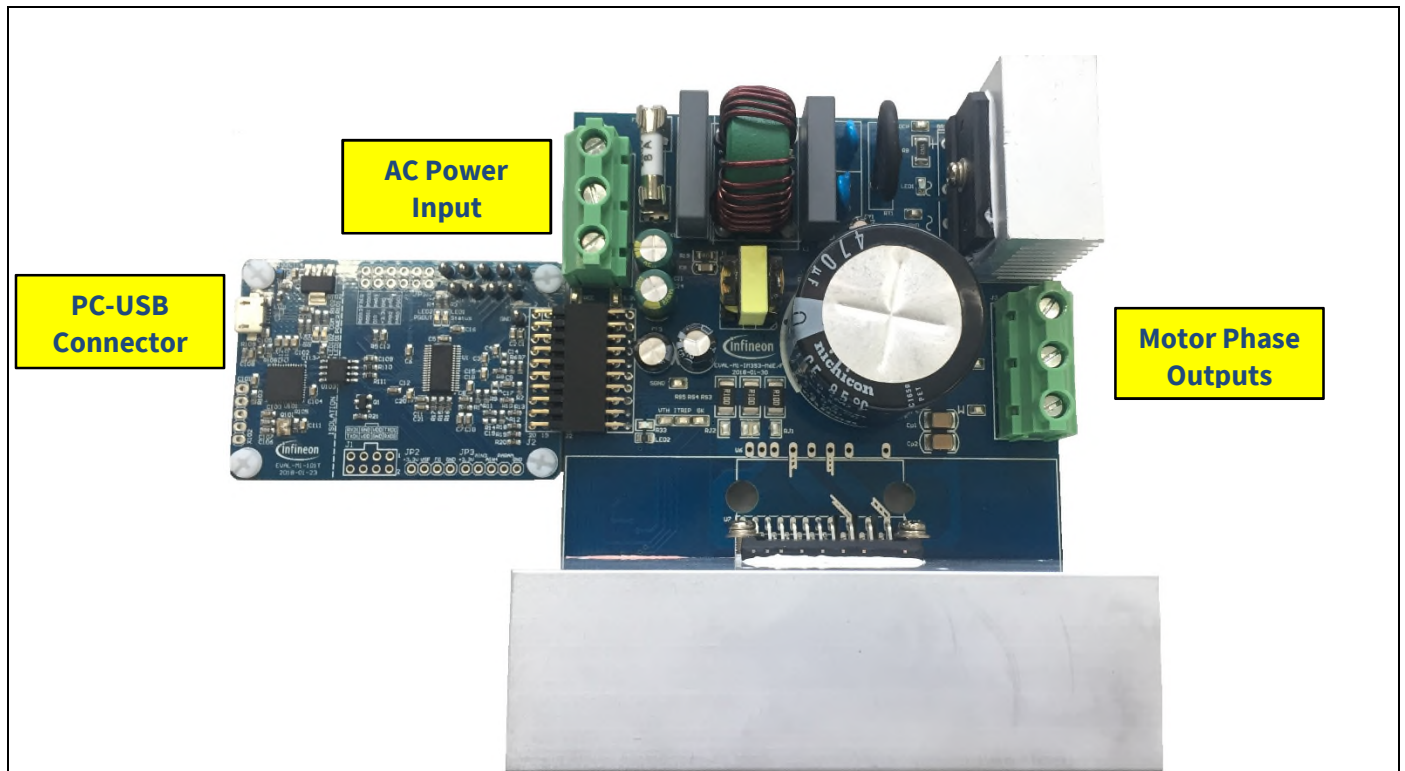

Figure 4 System connection example using EVAL-M1-CTF610N3 and EVAL-M1-101T
Figure 4 shows the system connection using EVAL-M1-CTF610N3 and control board (used control board EVAL-M1-101T for example).
2. Connect EVAL-M1-CTF610N3's MADK M1 20-pin interface connector (J2) to control board (see Figure 4).